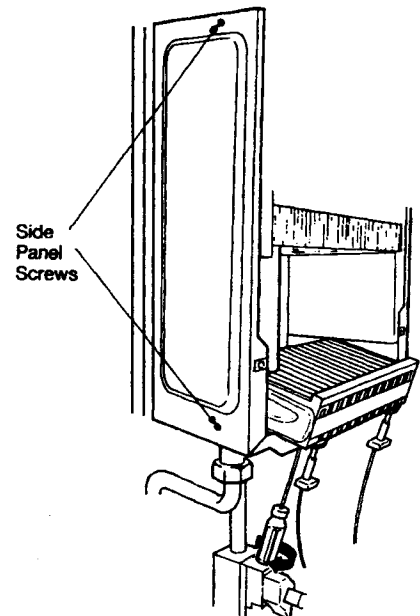

Fig. 27
Refer to fig. 27 & 28
Note: If difficulty is found in relocating the burner securing screws, easy access can be gained by removing the two side panels fig. 27.
- 8.8.5 Remove both side panels, 2 screws each fig. 27